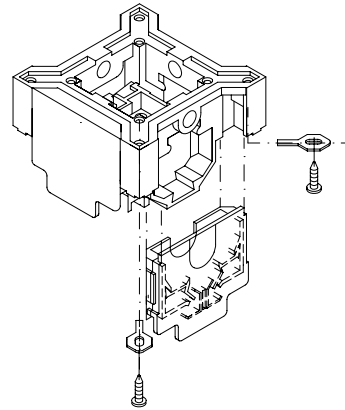

Fig. 1
Cam-operated contacts on the VCISO are field replaceable and can be removed by unscrewing the (2) clamps and sliding the contact block out of its channel (See Fig. 1). If contacts are to be cleaned, it is recommended that a low residue spray contact cleaner be used. The micro switches on the VCS2 are not field replaceable. (Never file or sand the contact tips).